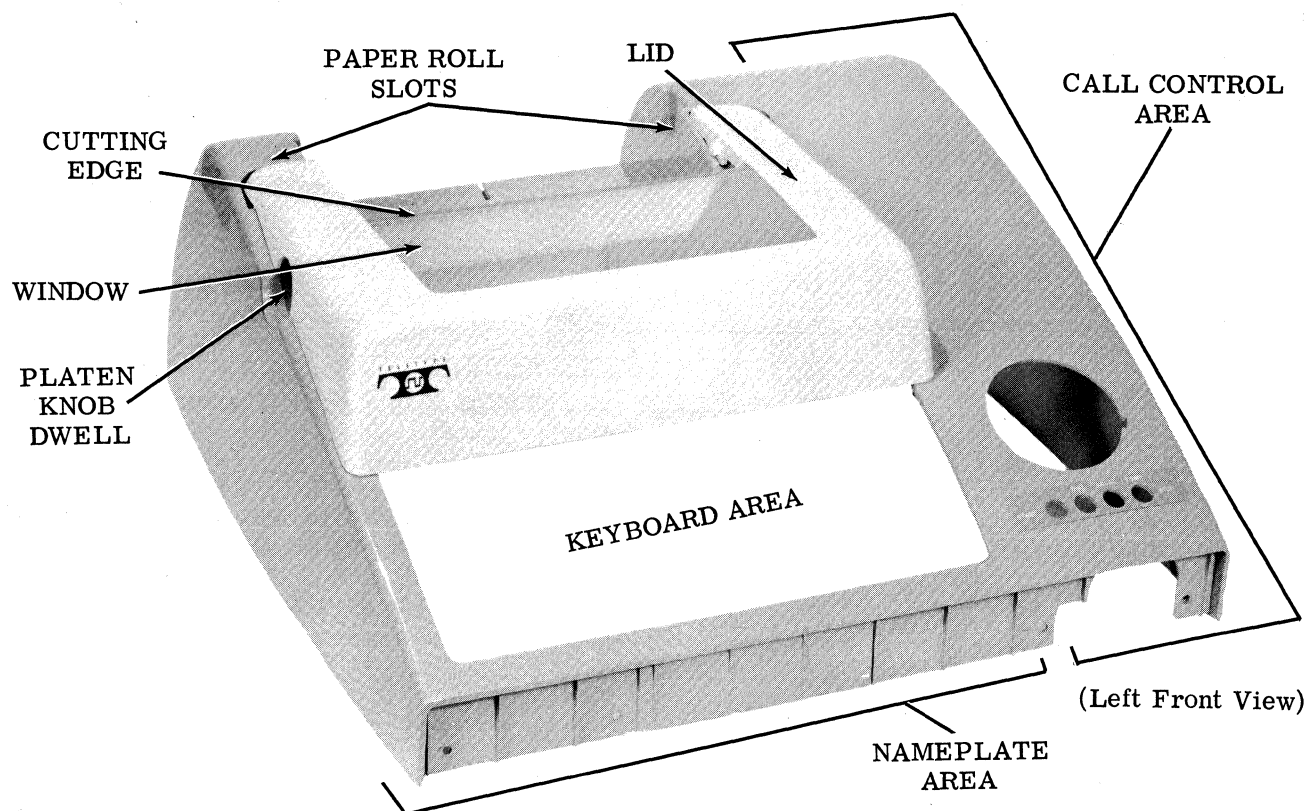

Figure 1 - Keyboard Send-Receive (KSR) Cover
2.03 The KSR cover illustrated in Figure 1 houses the typing unit, the keyboard, and the call control unit. Like the RO cover, the KSR cover is gray and made of plastic.
2.04 The cover has a raisable lid to provide access to the paper and the ribbon as described in 2.02. In the call control area, the cover has slots for the various lamps, as shown in Figure 1, and an opening for the dial. The nameplate attaches to the front of the cover.